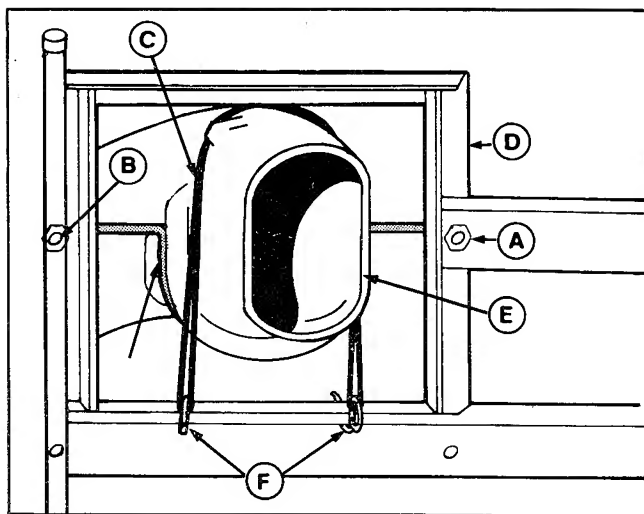

Figure 18.
2. Insert the elbow (E, figure 18) onto the hose.
3. Attach the collar (D, figure 18) to the cart. Remove existing capscrews (A and B). Use new 5/16-18 x 1-1/2 capscrew and flat washer at "A". Use new 5/16-18 x 2-1/2 capscrew and flat washer at "B". Secure with existing washers and nuts.
4. Align the elbow with the collar. Wrap the stretch cord (C) over the elbow (E) and hook to the frame to secure the elbow in position.